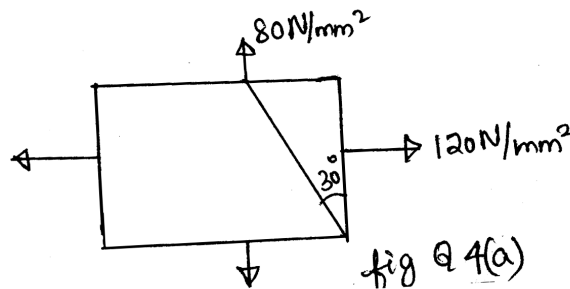

fig Q 4(a)
- 4 a. The direct stresses acting at a point in a strained material case as shown in Fig. Q 4 (a). Find the normal, tangential and the resultant stresses on a plane 30° to the plane of major principle stress. Find the obliquity of the resultant stress. Find the obliquity of the resultant stress also.
- b. The state of stress at a point in a strained material is as shown in Fig. Q 4 (b). Draw Mohr's circle and verify the results obtained analytically by determining the magnitude and directions of principal stresses and also maximum shear strain.